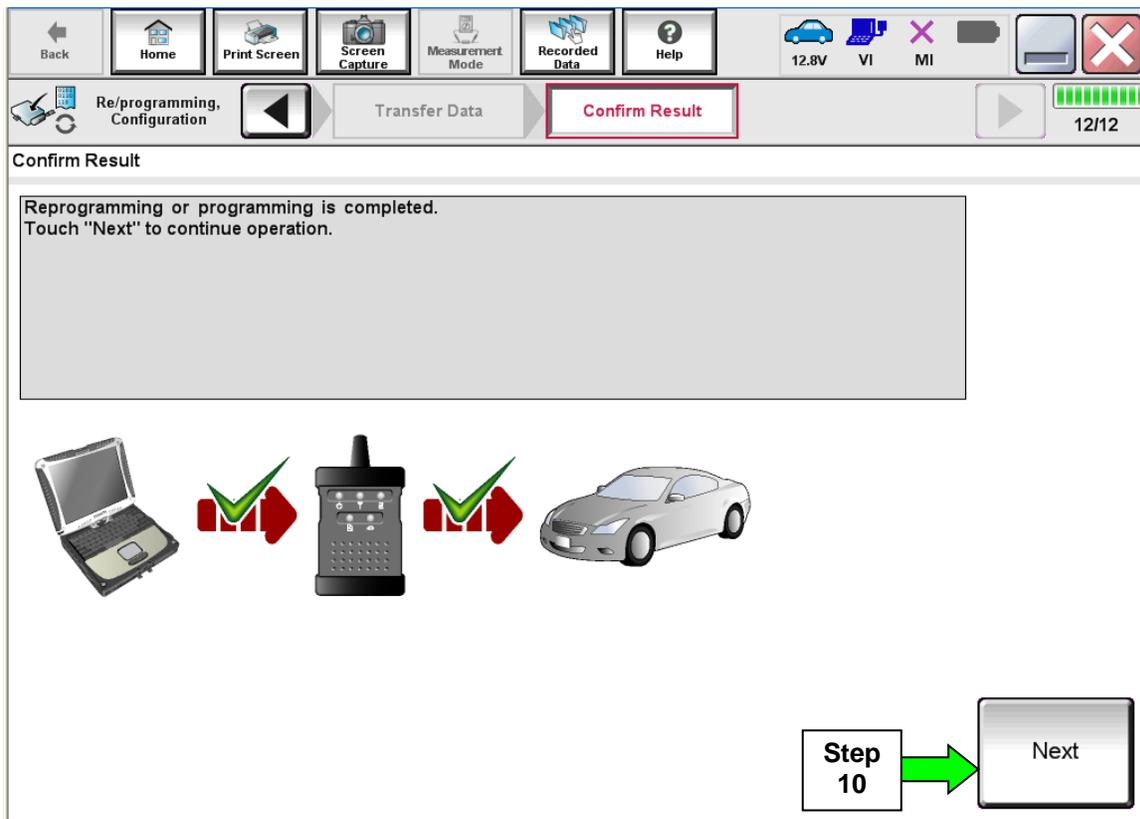

Figure 4
8. When the screen in Figure 4 displays, reprogramming is complete.
NOTE: If the screen in Figure 4 does not display (indicating that reprogramming did not complete), refer to TCM recovery on the next page.